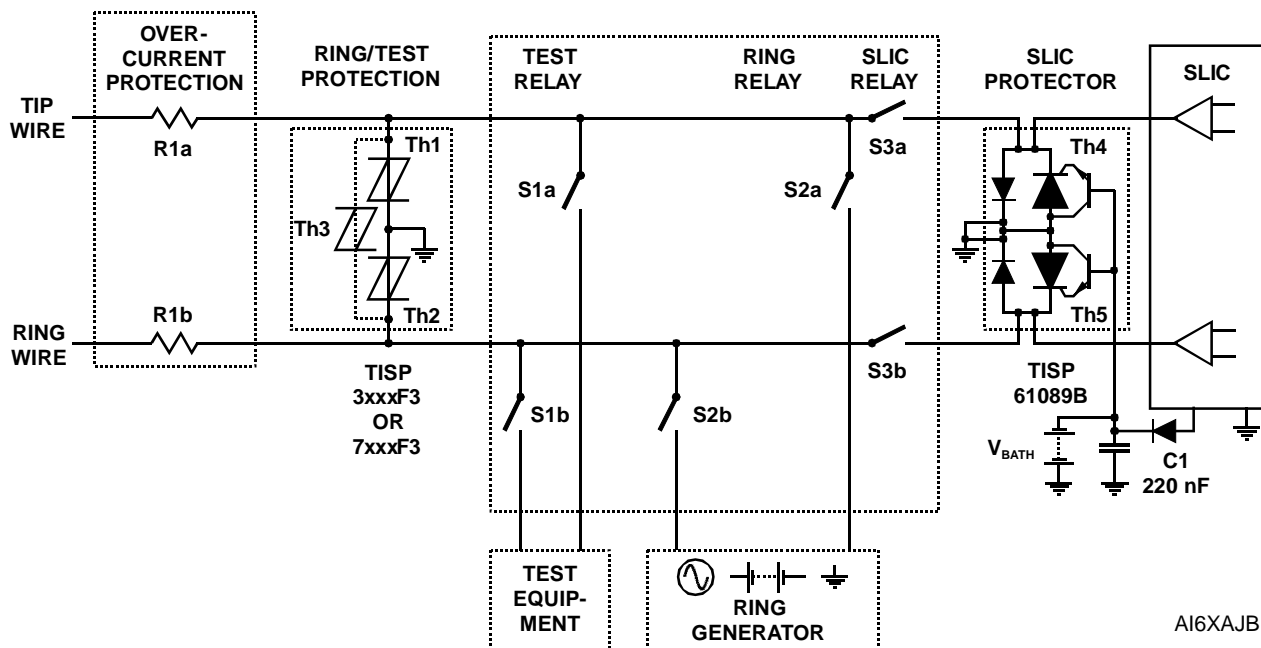

Figure 12. Typical Application Circuit
It is important to define the protector overshoot under the actual circuit current conditions. For example, if the series line feed resistor was 40 Ω, R1 in Figure 12, and Telcordia GR-1089-CORE 2/10 and 10/1000 first-level impulses were applied, the peak protector currents would be 56 A and 20 A. At the second-level, the 2/10 impulse current would be 100 A. Therefore, the protector voltage overshoot should be guaranteed to not exceed the SLIC voltage ratings at 100 A, 2/10 and 20 A, 10/1000. In practice, as the 2/10 waveshape has the highest current (100 A) and fastest di/dt (80 A/μs) the overshoot level testing can be restricted to the 2/10 waveshape.
Figure 12 shows a typical TISP61089B SLIC card protection circuit. The incoming line conductors, Ring (R) and Tip (T), connect to the relay matrix via the series overcurrent protection. Fusible resistors, fuses and positive temperature coefficient (PTC) resistors can be used for overcurrent protection. Resistors will reduce the prospective current from the surge generator for both the TISP61089B and the ring/test protector. The TISP7xxxF3 protector has the same protection voltage for any terminal pair. This protector is used when the ring generator configuration may be ground or battery-backed. For dedicated ground-backed ringing generators, the TISP3xxxF3 gives better protection as its inter-conductor protection voltage is twice the conductor to ground value.